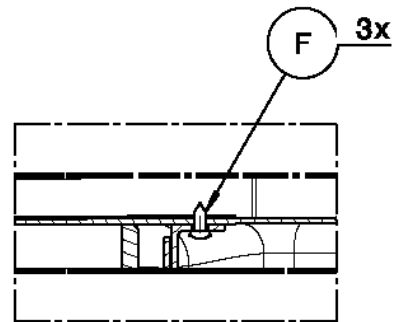

FIG. 6
12. Remove drip tray and insulation (4, Fig. 1) by removing 3 screws (F, Fig. 6) and 2 screws (G, Fig. 2)
44. Replace drip tray and insulation (4, Fig. 1) with 3 screws (F, Fig. 6) and 2 screws (G, Fig. 2). Enter the drip tray into the drain hose.